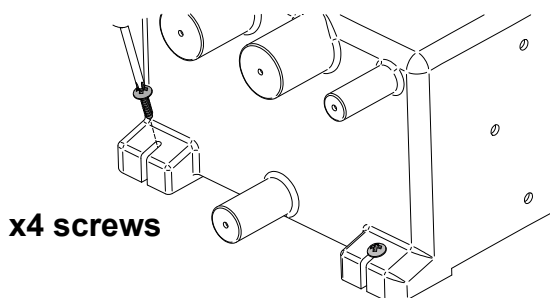
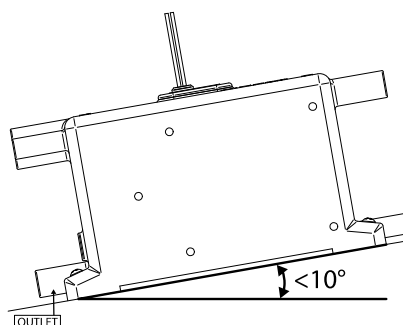

Figure 5 Securing The Tank
Figure 6 Maximum Possible Angle of Installation
| Fig. 5 | Securing the Tank |
| Fig. 6 | Maximum Possible Angle of Installation |
Step 2: The tank must be secured using 4 appropriate screws, through the feet of the tank as shown in Figure 5. **NOTE:** The angle of the tank must not exceed 10° (Figure 6). **NOTE:** Do not screw directly to the hull – **MUST** be mounted on a bulkhead or an additional board.